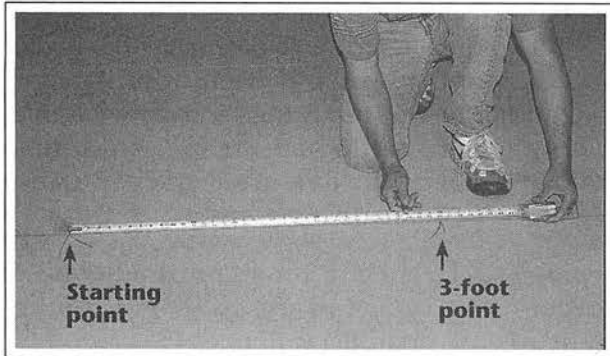

Figure 1-5. The squaring method begins with marking first the starting point on the chalk line, then the 3-foot point.
Step 1 Mark a crow's-foot anywhere along the reference line (see Figure 1-5). That's your starting point for the squaring process.